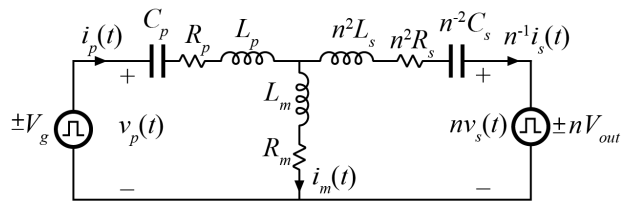

Fig. 2: Time-Invariant Circuit Model of SRC
The series resonant converter of Fig. 2 is commonly employed in high power dc-dc conversion. With appropriate impedances, this converter can also model certain wireless power transfer converters. A complete state space model of the converter exhibits A and B matrices which vary depending on the switching subinterval, resulting in a time-varying system model
If sufficiently large output capacitance is employed, and the transistors are sufficiently ideal, the circuit behavior can be modeled by the equivalent circuit of Fig. 2. In this model, A and B matrices are constant, and only the inputs $\mathbf{u}(t) = [v_p(t) \ v_s(t)]^T$ vary in time.
- What is the minimum number of states that can completely characterize the model of Fig. 2?